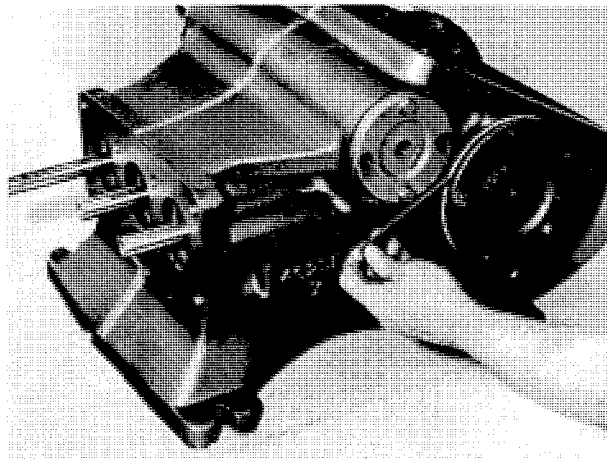

Fig. 8
- B. Install the left cap without shims, secure with two cap screws positioned exactly as shown in Fig. 8. Torque the two cap screws at 13 foot-pounds, rotate the crankshaft, retorque the cap screws. Do this three times to properly seat the tapered roller bearings.